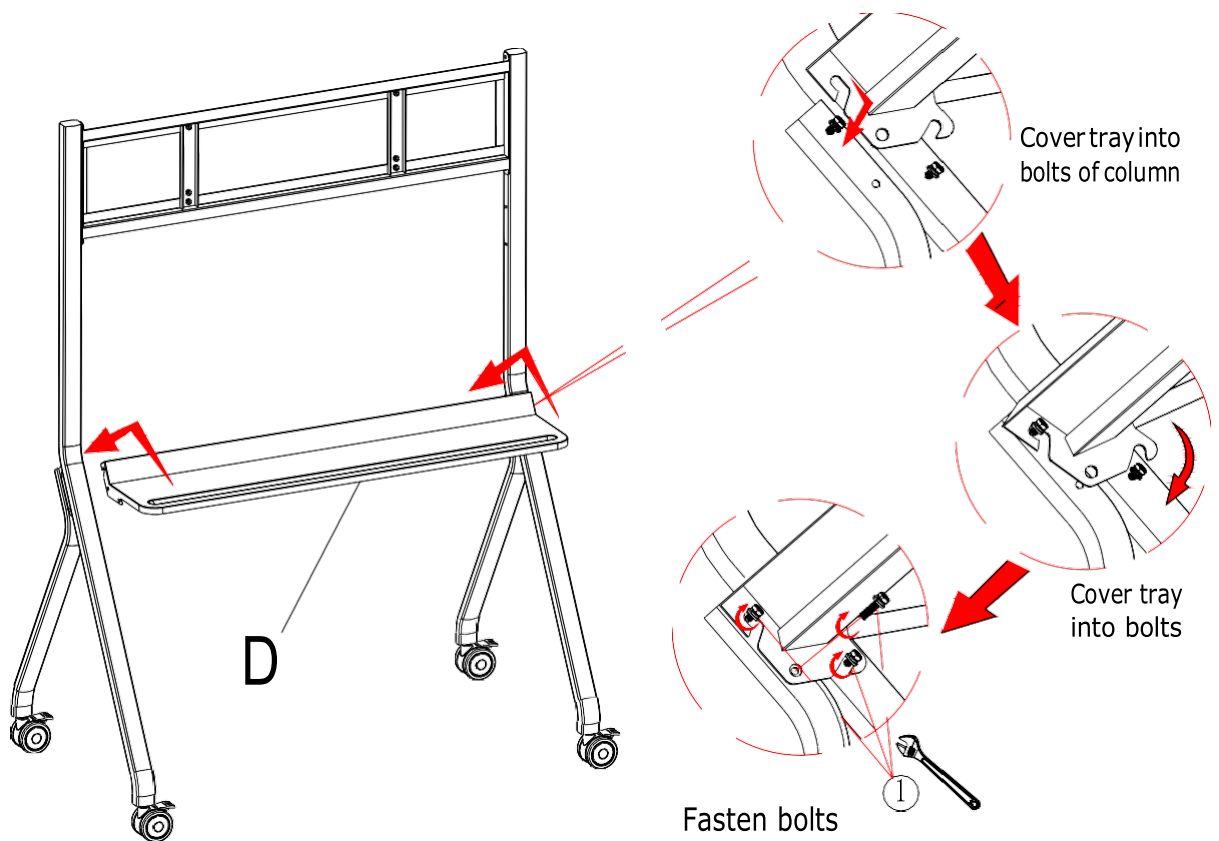

Figure 4
Step 4: Fab the tray between two upright columns. (Figure 4)